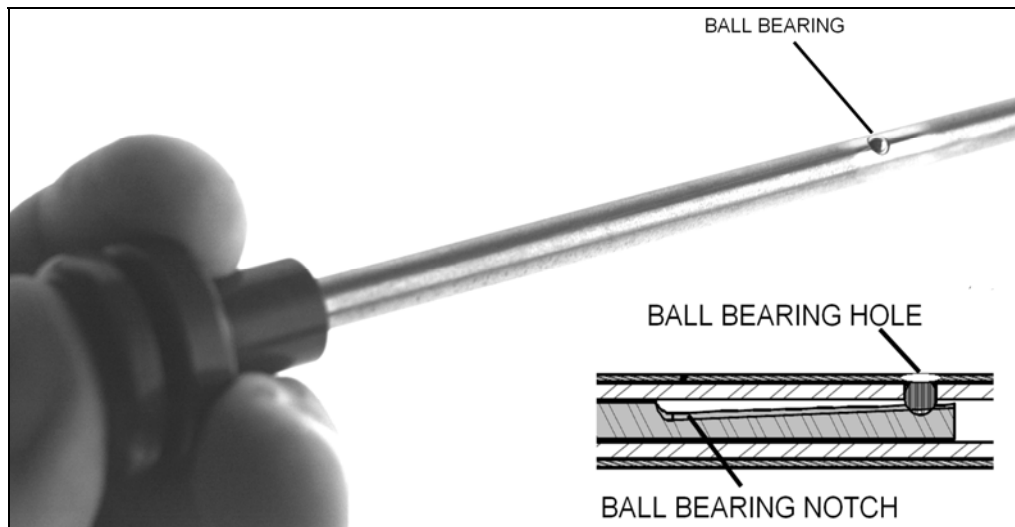

Figure 5
5. Squeeze the **PUSH BUTTON** and the **INNER KNOB** together and lightly press the **BALL BEARING** into the **BALL BEARING HOLE** until the ball rests against the **BALL BEARING NOTCH**. (Figure 5)